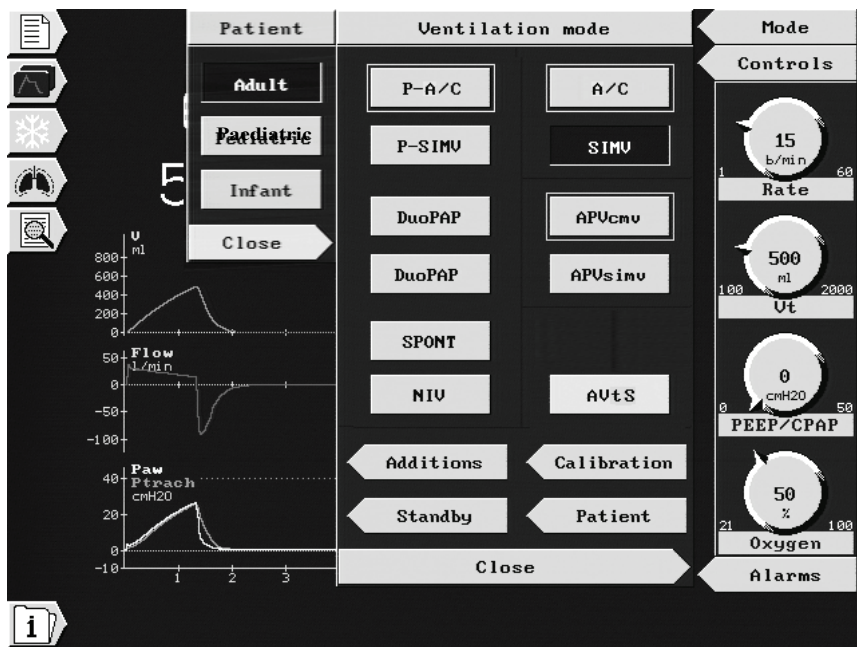

Figure 4-2. Patient window
3. Open the **Patient** window (Figure 4-2).